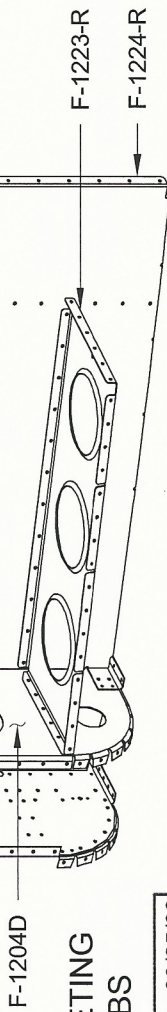

FIGURE 2: RIVETING BAGGAGE RIBS
Step 4: Rivet the F-1221-L & -R, F-1222-L & -R, and F-1223-L & R Baggage Ribs to the F-1204D Center Section Aft Bulkhead and F-1224-L & -R Baggage Floors using the rivets called out in Figure 2. Install all the rivets so that the manufactured heads are on the bulkhead.
Step 5: Dimple the nutplates depicted in Figure 2, then rivet them to the F-1221-L & -R Baggage Ribs and F-1224-L & -R Baggage Floors.